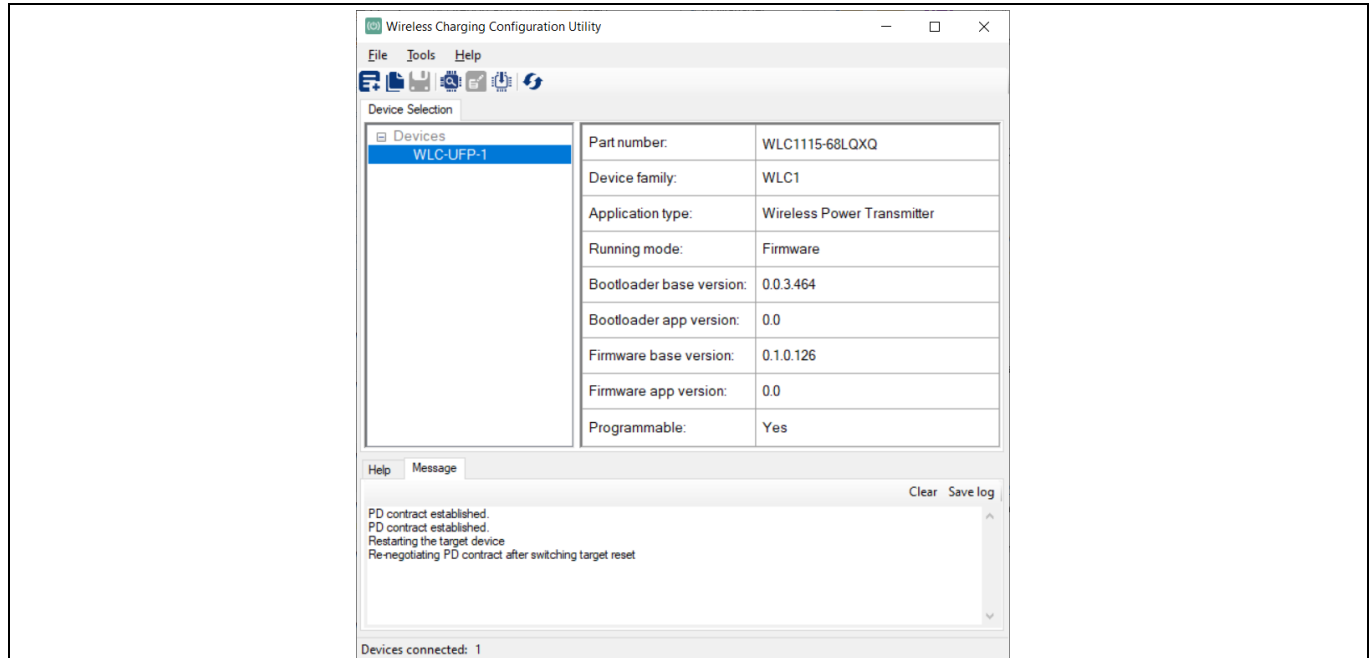

Figure 19 Selecting WLC1115 device in Wireless Charging Configuration Utility
- c) Confirm that the reference board is selected under the **Device Selection** tab, as shown in **Figure 19**.